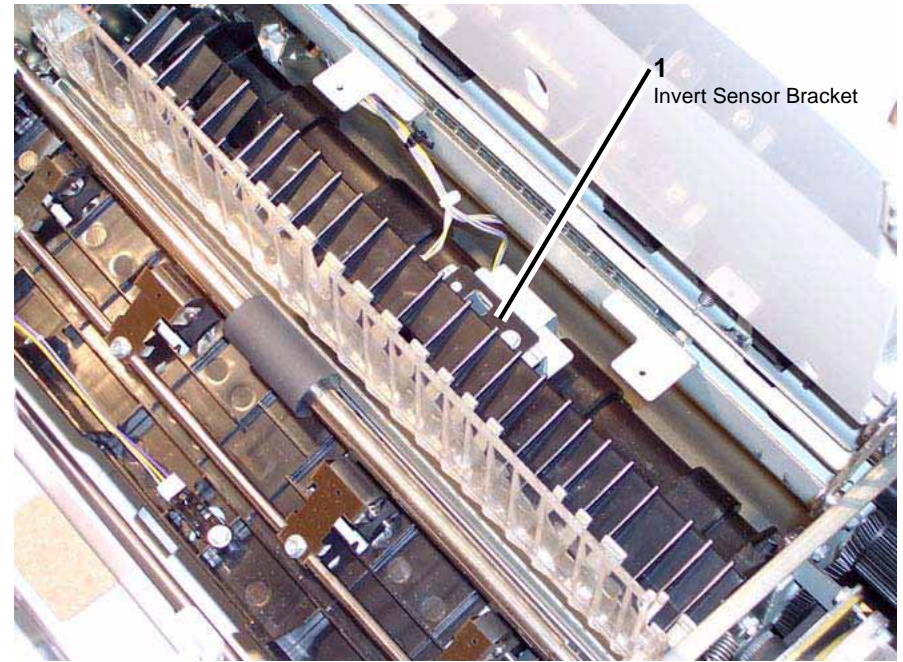

Figure 1 Invert Sensor Bracket
- b. Remove (2) screws securing the Guide Upper Chute.
3. Remove the Invert Sensor Bracket (the upper of the two visible brackets). Figure 1
- a. Remove the securing screw (1).